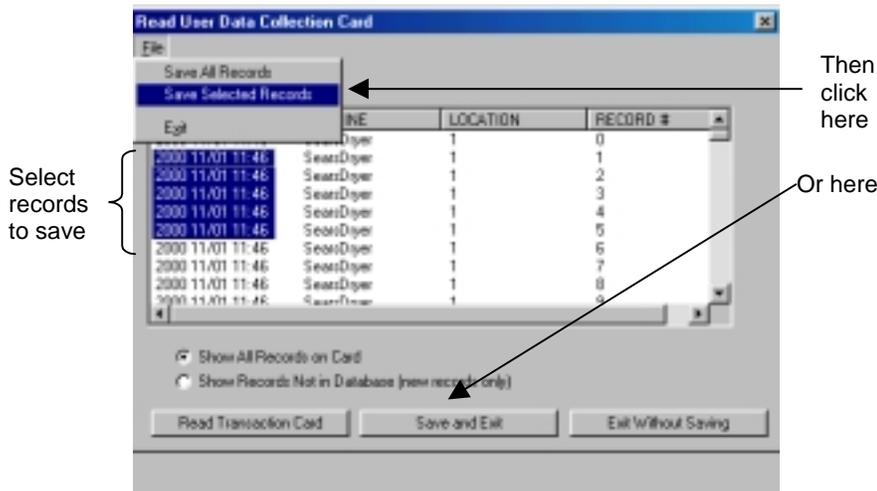

Figure 6.15 Saving the Collection Records
4. The Read User Data Collection Card window will open and list all the User data collections on the card. Select which records to save select the Save Selected Records from the File drop-down menu or click the Save and Exit button to save all records (Figure 6.15).